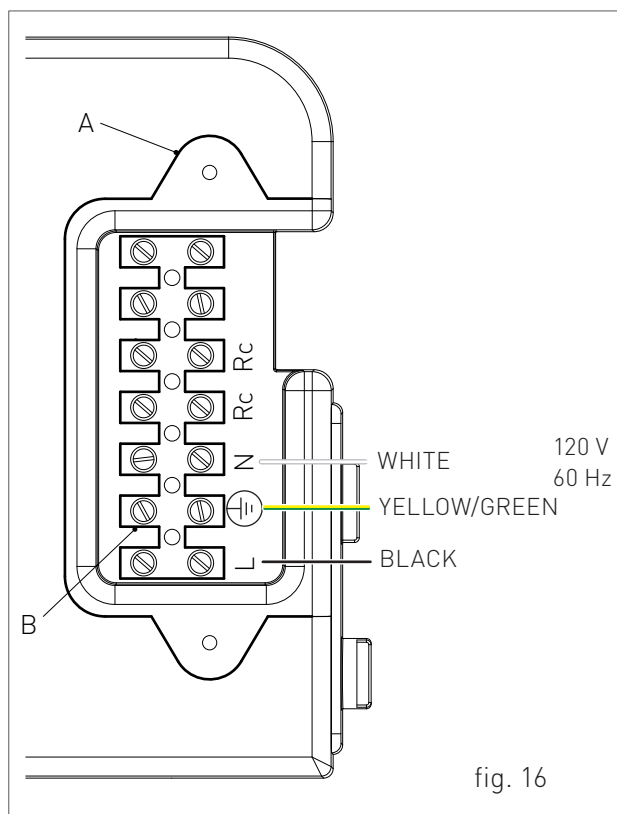

fig. 16
- › after removing the plate, connect the electrical cables to terminal "B" (see fig. 16):